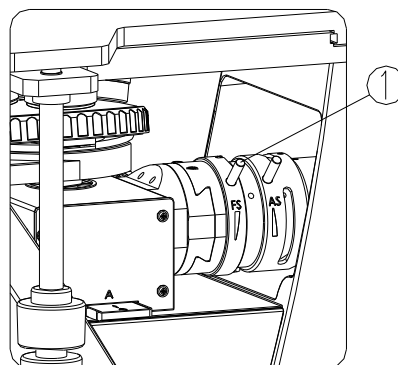

Figure-7 Field Diaphragm Adjustment
3.1.3 Adjustment of Field Diaphragm (Figure-7)